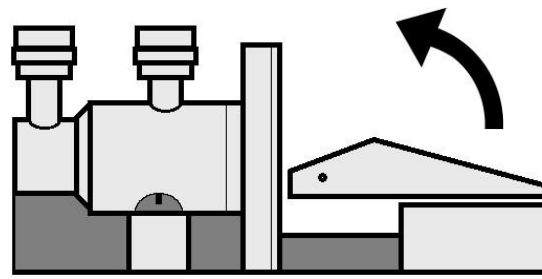

Figure 4
3. Remove the plastic wrapping from the trigger pad/tablet and insert into the device. To do this, lift the trigger lever on the end of the unit (Figure 4), place the pad in the hole below the lever in the end of the device and push the lever back down to set the device.